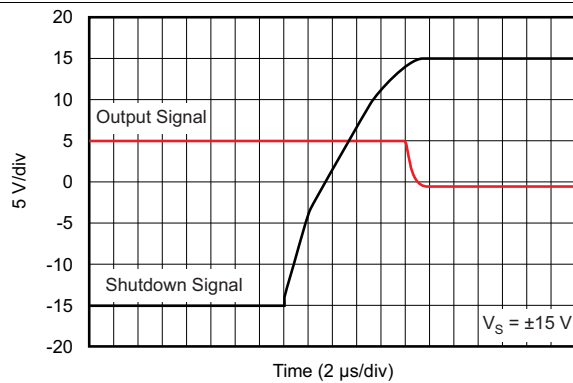

Figure 39. Turnoff Transient
(1) When disabled, the output assumes a high-impedance state.
(2) See Typical Characteristics curves (Figure 39 through Figure 41).
The shutdown (enable) function of the OPA211 is referenced to the positive supply voltage of the operational amplifier. A valid high disables the operational amplifier. A valid high is defined as (V+) – 0.35 V of the positive supply applied to the shutdown pin. A valid low is defined as (V+) – 3 V below the positive supply pin. For example, with V_{CC} at ±15 V, the device is enabled at or below 12 V. The device is disabled at or above 14.65 V. If dual or split power supplies are used, care should be taken to ensure the valid high or valid low input signals are properly referred to the positive supply voltage. This pin must be connected to a valid high or low voltage or driven, and not left open-circuit. The enable and disable times are provided in the Typical Characteristics section (see Figure 39 through Figure 41). When disabled, the output assumes a high-impedance state.